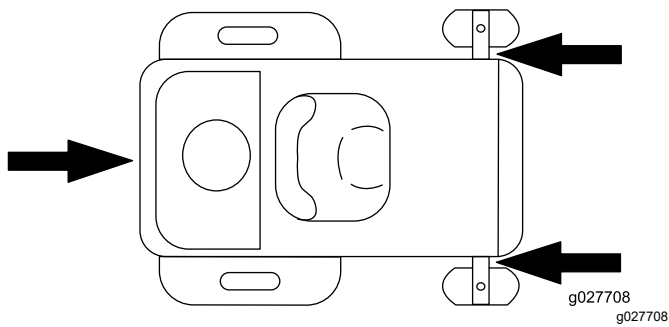

Figure 29
- Securely fasten the machine to the trailer or truck with straps, chains, cable, or ropes. Only use the four designated tie-down locations on the mower—two on the left side and two on the right (Figure 29). Use these locations even when transporting the mower with an attached accessory. Using non-designated locations may cause damage to the mower and/or attachment.